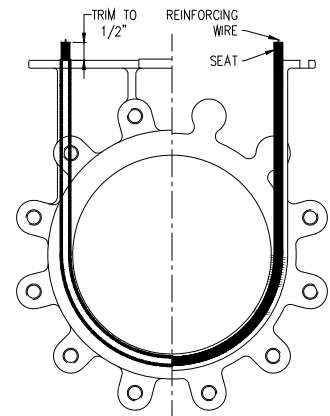

Figure 4
- E. Push the seat down until it reaches the bottom of the valve, keeping both ends of the seat extending equally from the top of the valve as shown in figure 4.
- H. Trim the remaining material at the top of the valve body approximately 1/2" above the mounting flange per figure 4.